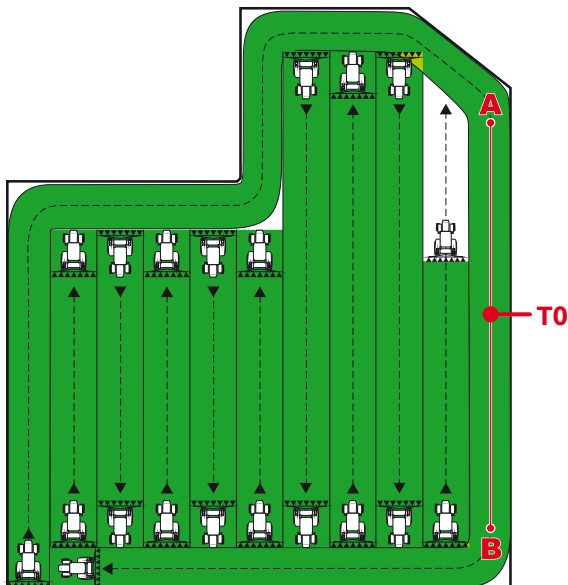

Fig. 243
- Once the line from A to B has been marked (**T0**), it will be possible to spray the rest of the field along parallel lines, (Fig. 243), by following the reference tracks shown on the display (Fig. 244).